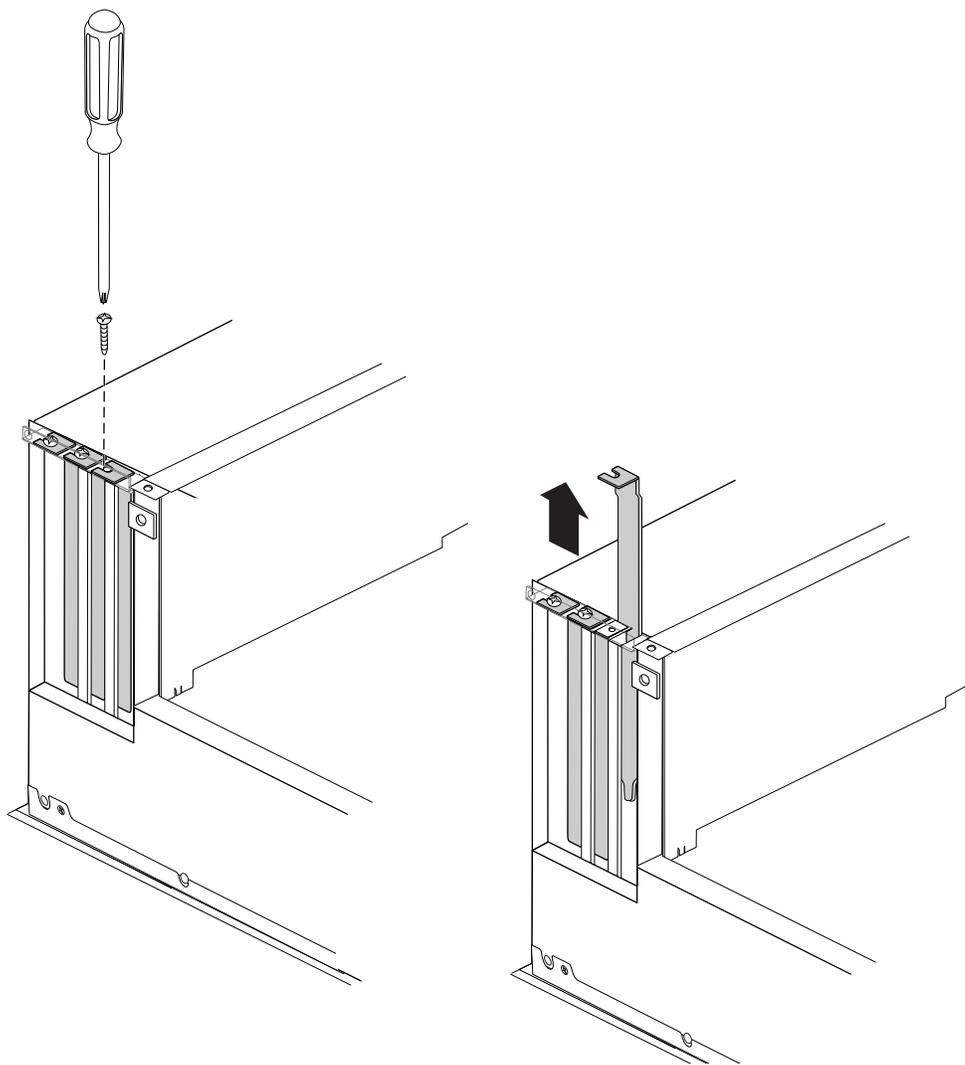

Figure 6-3 Removing a PCI Slot Blanking Plate
- Using a #2 Phillips screwdriver, remove the single screw that secures the blanking plate to the chassis. See Figure 6-3.
- Remove the blanking plate by lifting it straight up, as shown in Figure 6-3.